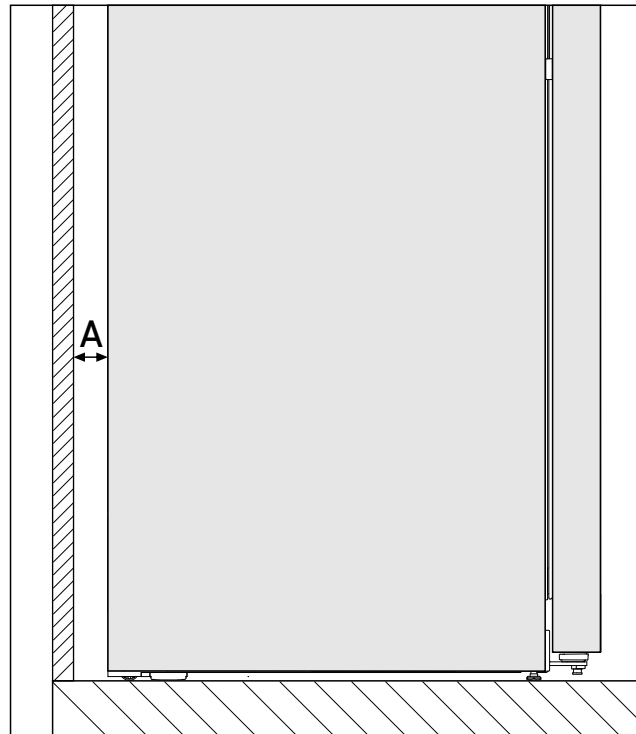

Fig. 3 \*
The energy consumption was determined with a wall distance *Fig. 3 (A)* between the rear of the appliance and the wall. If the wall distance is less than *Fig. 3 (A)*, this has no effect on the functionality of the appliance, but energy consumption increases slightly when the distance to the wall is smaller.\*